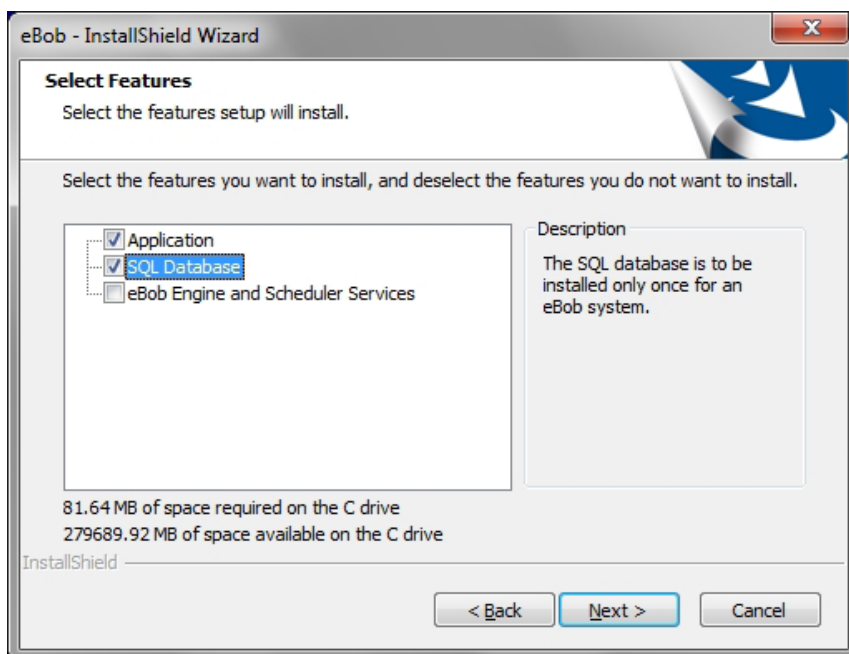

Figure 4
- a. If this installation is for a Database, check Application and SQL Database as shown in Figure 4.